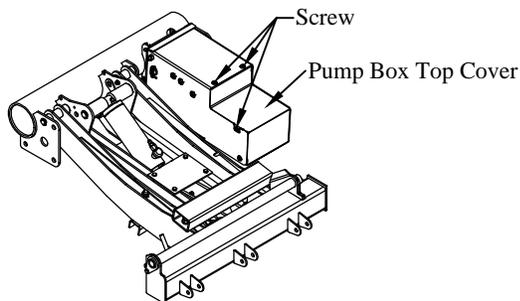

Figure 2: Pump box.
- Remove** the pump box top cover by removing the three (3) screws, and verify that the vent plug is installed (Figure 2).